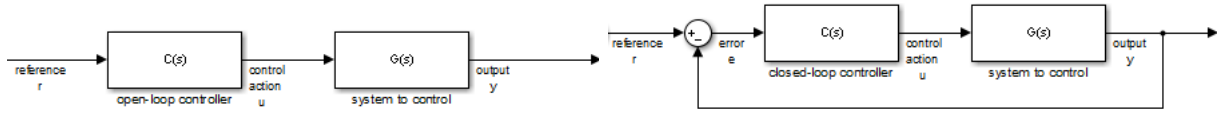
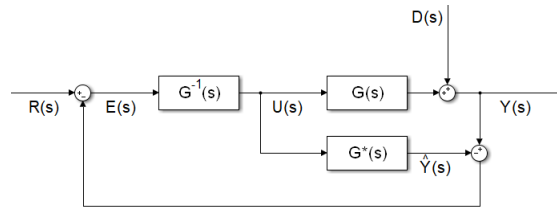

Figure 9.12: Left: open loop control. Right: closed loop control.
Figure 9.17: Internal model control (IMC).
There are two generic configurations for control systems: **open-loop control** and **closed-loop control**, shown in Figure 9.12. Every control system is a variation of one of these two configurations, or a combination thereof. Both add, to the system we want to control, another system called **controller**, intended to make the controlled system's output  $y(t)$  follow some specified reference, or desired output,  $r(t)$  (remember Section 3.1). In a perfectly controlled system,  $y(t) = r(t)$ ,  $\forall t$ . The output of the controller is the system's input in the strict sense (the input must be a manipulated variable).
3. Figure 9.17 shows a variation of closed-loop control called internal model control (IMC). It has this name because it requires knowing a model of the system to control, as well as an inverse model of the system to control. In that block diagram:
- (c) Show that, whether the models are perfect or not, the block diagram of IMC in Figure 9.17 is equivalent to the block diagram of closed-loop control in Figure 9.12, if  $C(s) = \frac{G^{-1}(s)}{1 - G^{-1}(s)G^*(s)}$ .